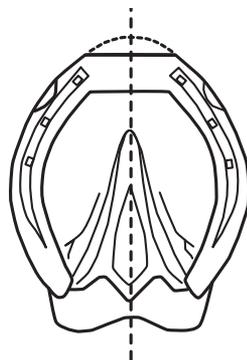

figure 6
- The leading edge is straight, and the lateral edges (or corners) are not excessively rounded. (figure 6)
- The leading edge is fitted to be set back from the toe of the foot/pattern $\frac{1}{2}$ of width of the shoe stock. (figure 6)